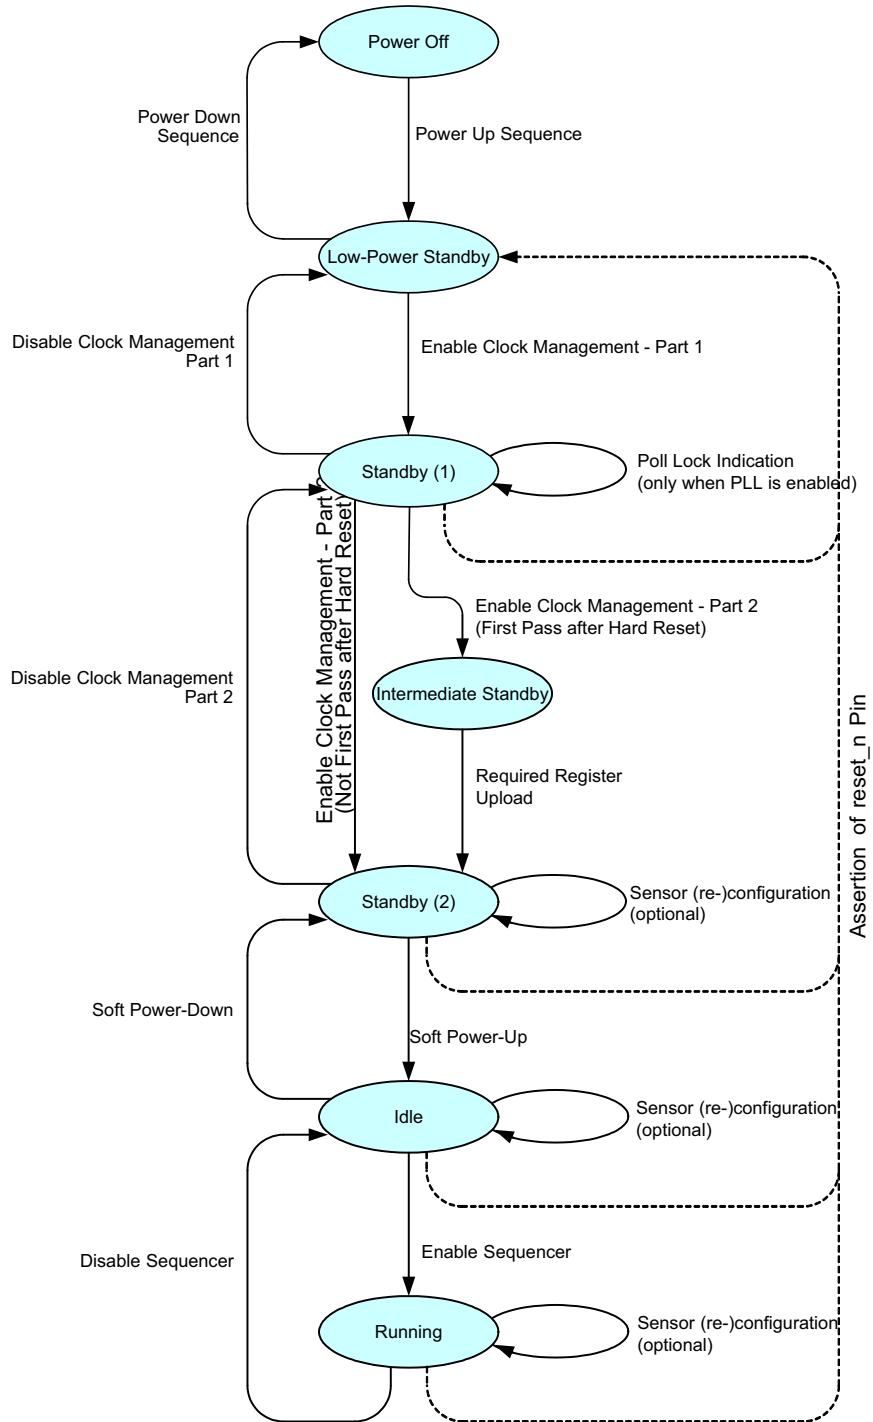

Figure 13. Sensor Operation Flowchart
Figure 13 shows the sensor operation flowchart. The sensor has six different 'states'. Every state is indicated with the oval circle. These states are Power off, Low power standby, Standby (1), Standby (2), Idle, Running.
is not used, this step can be bypassed as shown in Figure 13 on page 14.